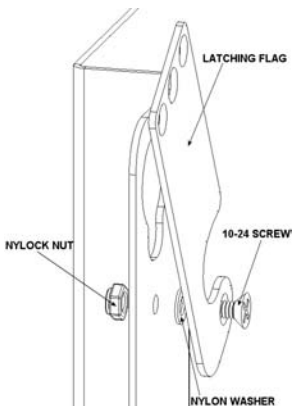

Figure 2
1. Attach latching flag to mount using the 10-24 Phillips head screw, the nylon washer, and the 10-24 Nylock nut (see Figure 2). Tighten until friction will hold the flag in place.